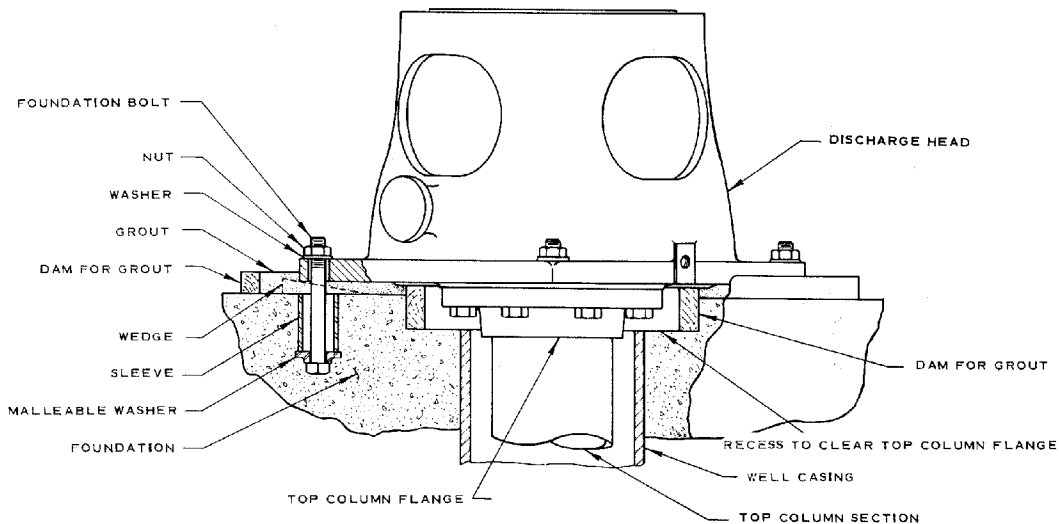

Fig. 4-1. Foundation And Grouting Details.
A. It is strongly recommended that a substantial concrete foundation be built around the well before the pump is installed. The original pump shaft alignment will last only as long as the foundation supports the pump in a stable position. If the pump discharge head has a protrusion below the base which is wider than the well casing, the top of the casing must be far enough below the foundation surface to clear such a protrusion. In this case, a dam must be provided around the well casing about one inch above the foundation to retain the grout which will later be poured between the discharge head and the foundation. (See Fig. 4-1.) If the well casing is wider than any protrusion of the discharge head below the base, the casing itself can be used as a dam for the grout.
D. Foundation bolts (hold-down or anchor bolts) are not required for pumps with discharge pressures less than 10 psi and column lengths greater than 50 feet, when driven by a motor or steam turbine or through a right-angle gear unit. Pumps with column lengths of 50 feet or less, or discharge pressures of 10 psi or more, and all pumps which are belt-driven, should be anchored by sleeve-type, or equivalent, foundation bolts. (See Fig. 4-1.) Sleeve-type bolts are recommended because they allow some flexibility in the final positioning of the discharge head. They are also convenient in that the discharge head need not be removed after having once been set, as is necessary when drilled-type fasteners are used. The correct bolt diameter and length can be determined by referring to Fig. 4-2, which gives the pertinent dimensions for all the discharge head sizes. It is recommended that a template be made for accurately locating the foundation bolts. See Fig. 4-2 for the correct spacing. Some pumps are provided with